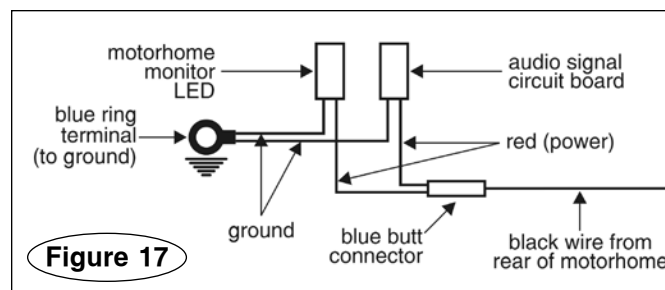

Figure 17
8. With one or more wire ties, attach the audio signal circuit board (Figure 17) to the underside of the dash, as close to the LED as possible.
9. Connect the monitor LED, audio signal circuit board and the black wire from the rear of the motorhome as shown in Figure 17.